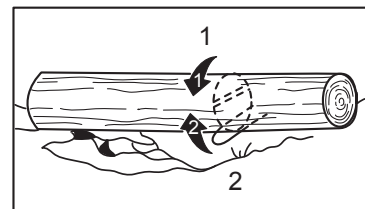

FIG. 6
3. Trunk supported on both ends: First cut from above for  $\frac{1}{3}$  of the trunk and then from the bottom up until the previous cut has been reached. (Fig. 6).